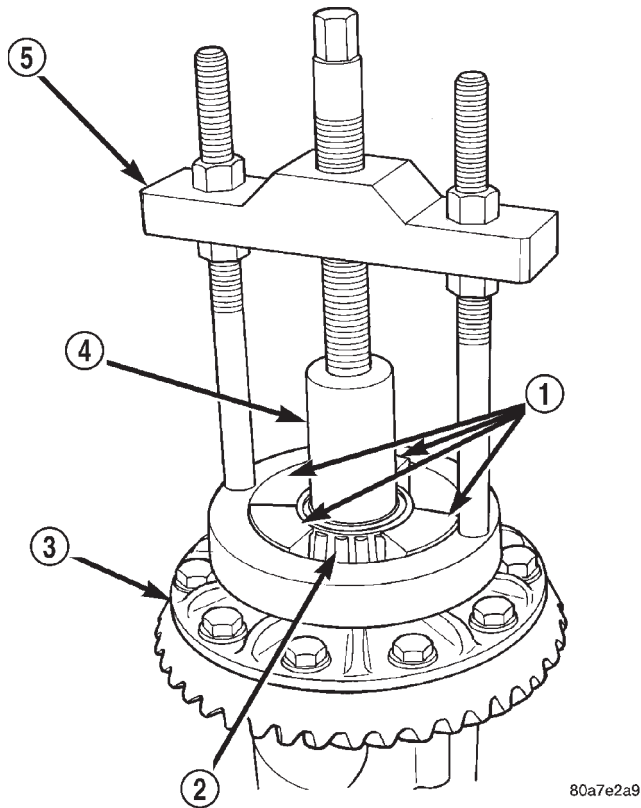

Fig. 35 Differential Bearing Removal
- (1) Remove differential case from axle housing.
- (2) Remove the bearings from the differential case with Puller/Press C-293-PA, C-293-39 Adapter Blocks, and Plug SP-3289 (Fig. 35).